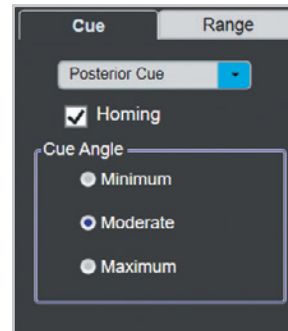

Figure 6-3: Homing & Cue Angle
3. If desired, select the Homing option to require the trolley to return to an overhead position when the patient is stationary. See Figure 6-3. Deselecting the Homing option will maintain an angled position when the patient is stationary.
4. Cue Angle may be adjusted to increase or decrease the rope angle from the vertical orientation by selecting the Minimum, Moderate, or Maximum radio buttons. See Figure 6-3.